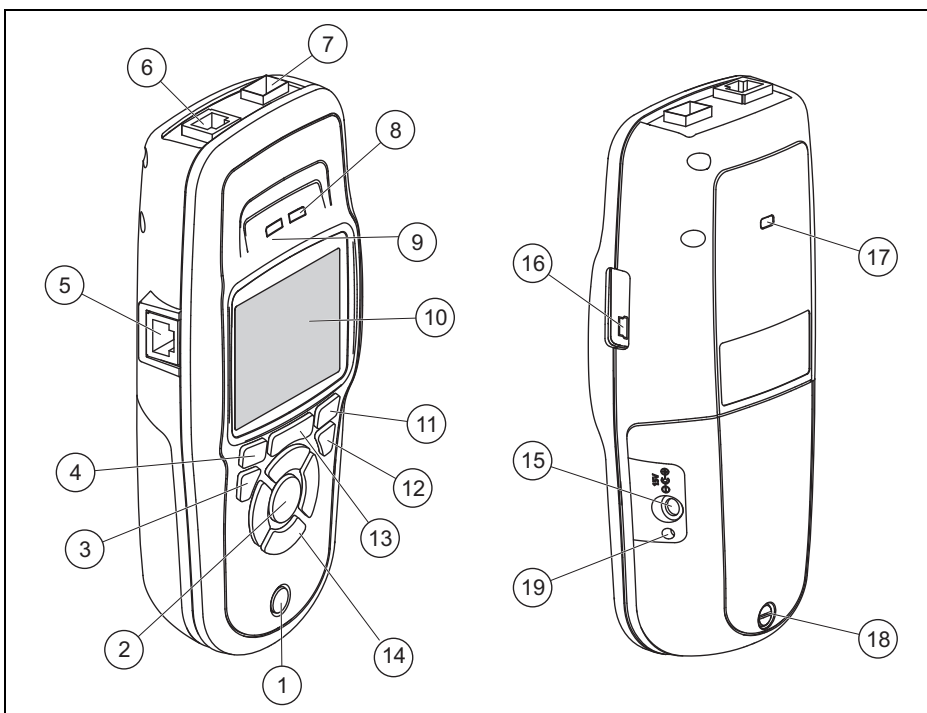

Figure 1. Physical Features of LinkRunner AT
To charge the Li-ion battery, connect the AC adapter to the battery connector (see Figure 1 number ⑮). You can use the tester while you charge the battery.